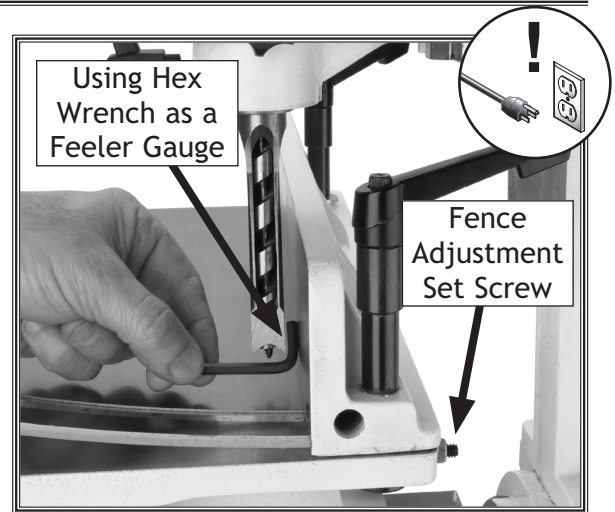

Figure 24. Checking fence parallelism.
7. Using the hex wrench, check the gap between the chisel and fence (see **Figure 24**).